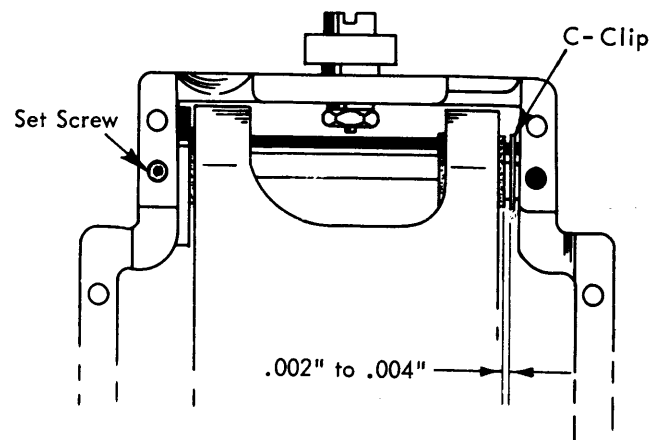

FIGURE 38. Rocket Shaft Adjustment
7. Rocker Shaft - Adjust the rocker shaft left or right to obtain .002" to .004" side play in the rocker (Fig. 38).